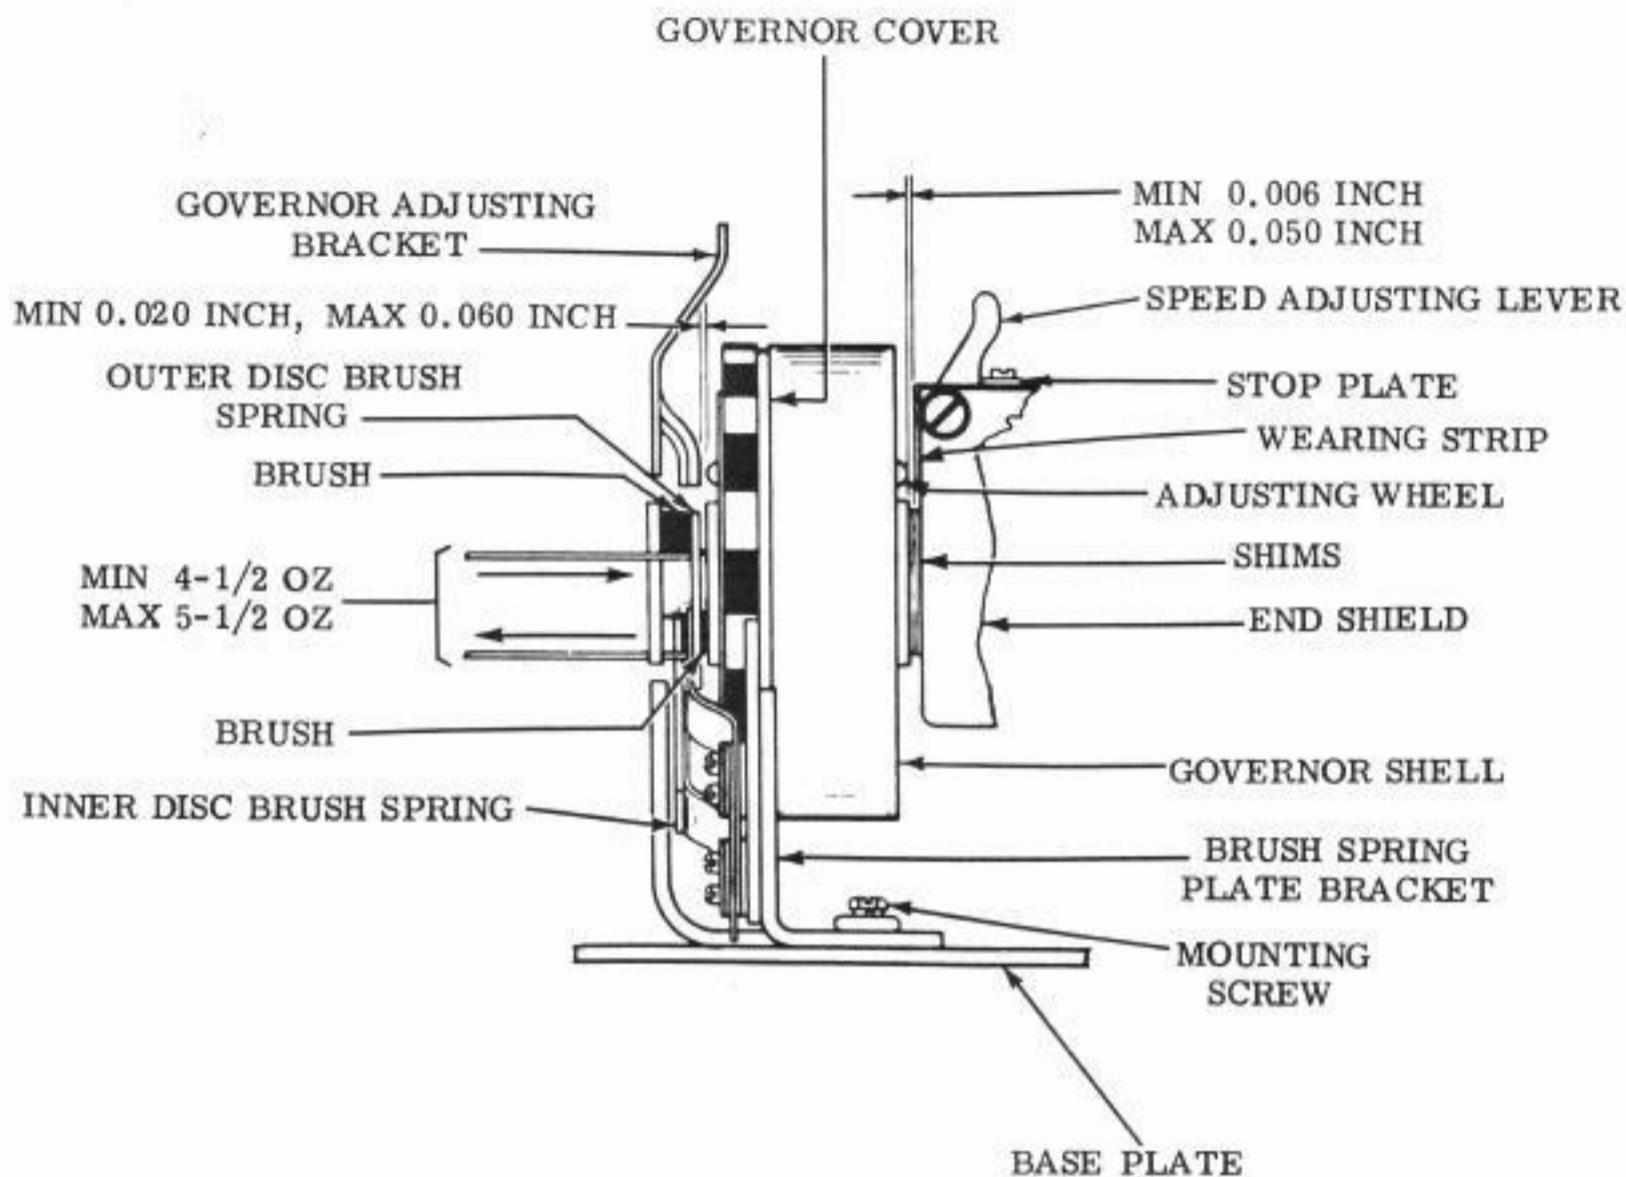

Figure 9 - Governor Brush Spring Plate Bracket Assembly
To Adjust: Position the adjusting lever stop plate by means of its elongated mounting holes. (See Figure 9.)
To Adjust: Loosen the brush-spring-plate mounting screws and reposition the bracket. Tighten the screws. (See Figure 9.)
To Adjust: Remove and bend the brush spring. Reassemble the spring and recheck (6). (See Figure 9.)
(8) Outer-disc Brush-spring Tension: It shall require minimum $4-1/2$ ounces, maximum $5-1/2$ ounces to start the brush moving away from its disc.
(9) Governor-brush Alignment: The outer edge of the brushes shall be within $3/64$ inch of the outer edge of the discs throughout one revolution of the governor; and a line established by the center of the outer disc and the center of one of the brushes shall pass through some portion of the other brush.
To Adjust: Bend the governor-adjusting bracket. (See Figure 9.)